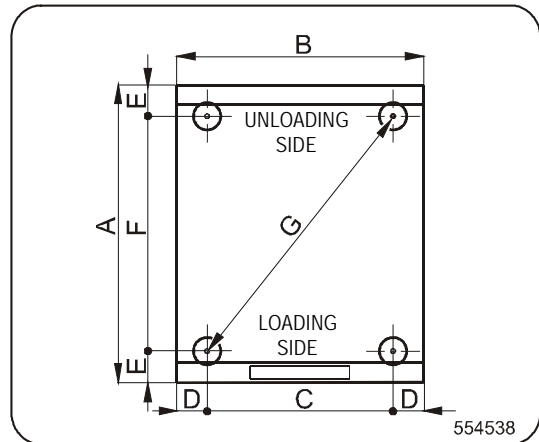

Figure 10
- It is advisable to use anchoring pads (supplied on request) fixed to the floor underneath the weighing system. They serve the purpose of placing the machine back in its exact position after it has been slid out of the row. Drill 4 holes $\varnothing 16$ mm / 0.63" into the floor for the placement of the anchoring pads. These holes should be 60 mm / 2.36" deep (see Figure 10).